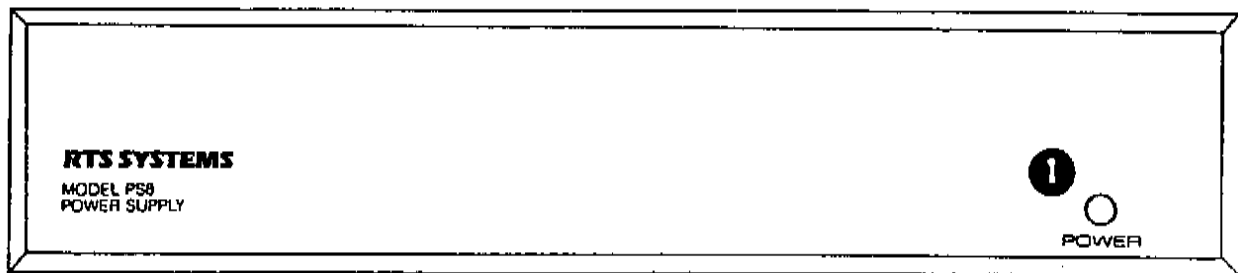

Figure 3-1
3.1 FRONT AND BACK PANEL DESCRIPTIONS (See Figures 3-1 and 3-2)